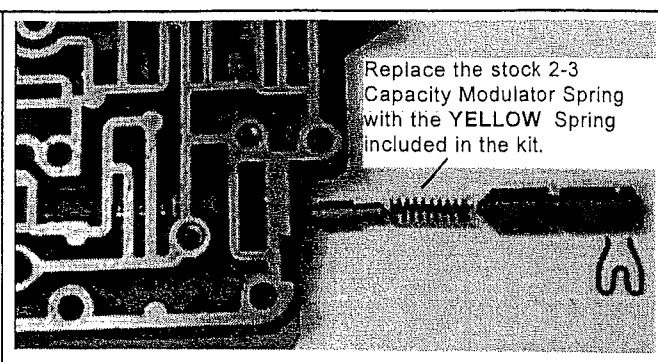

Figure 5. 2-3 Capacity Modulator Spring
Step 6. 2-3 Capacity Modulator Spring (See Fig. 5): Depress the orifice control valve train sleeve and remove retaining clip. Remove orifice